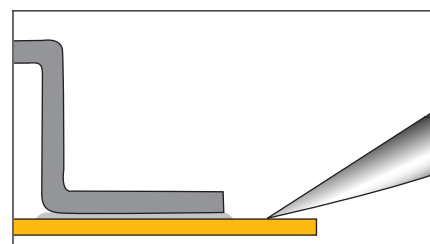

Figure 2 Heat Only Land
5. When the component is properly aligned, lightly flux the prepped land and the lead over it and bring a clean tip down to the land, in front of the toe of the lead. Do not contact the lead – heat only the land. (See Figure 2.)